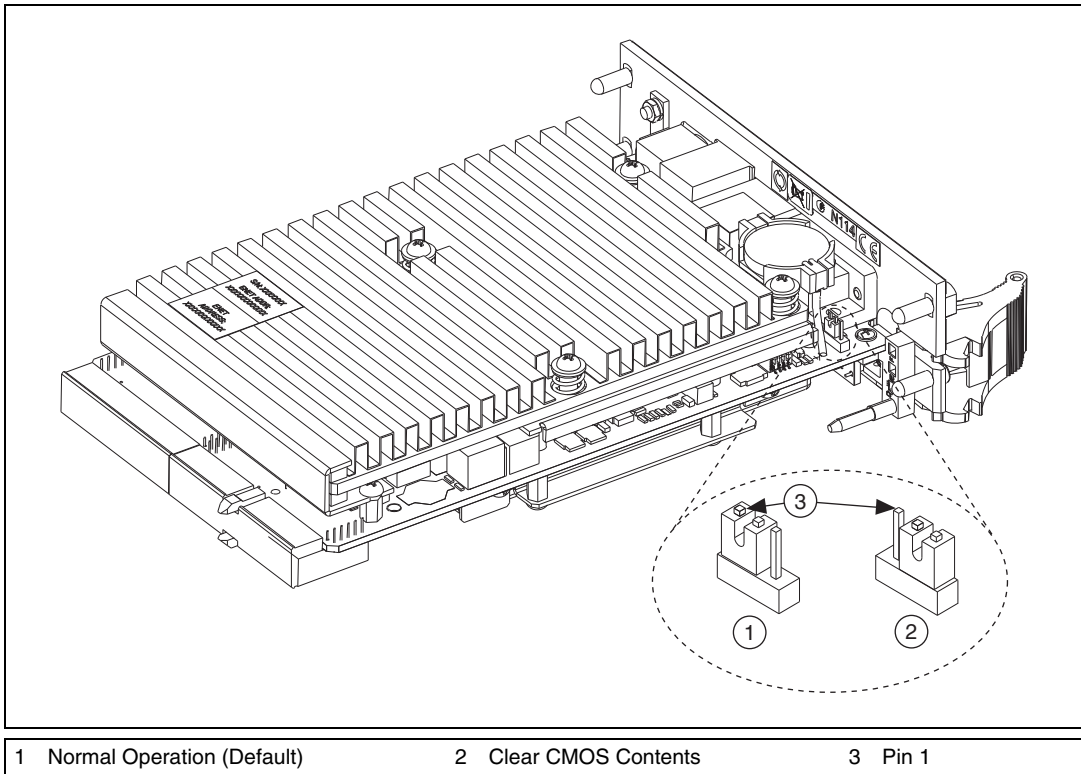

Figure 2-3. Clearing the CMOS Contents (NI PXI-8183 Shown)
3. Move the jumper on J1 from pins 1–2 to pins 2–3, as shown in Figure 2-3.